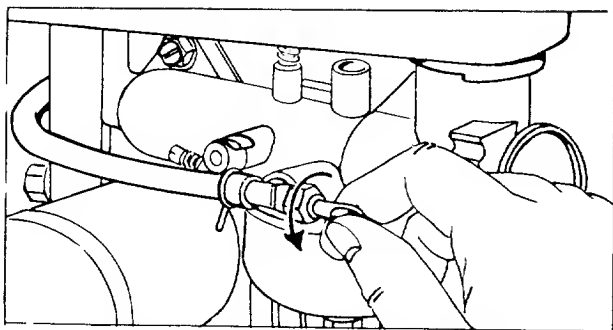

FIGURE 12. FUEL SHUT-OFF VALVE
Step 1. Be sure the fuel shut-off valve is open. See figure 12.